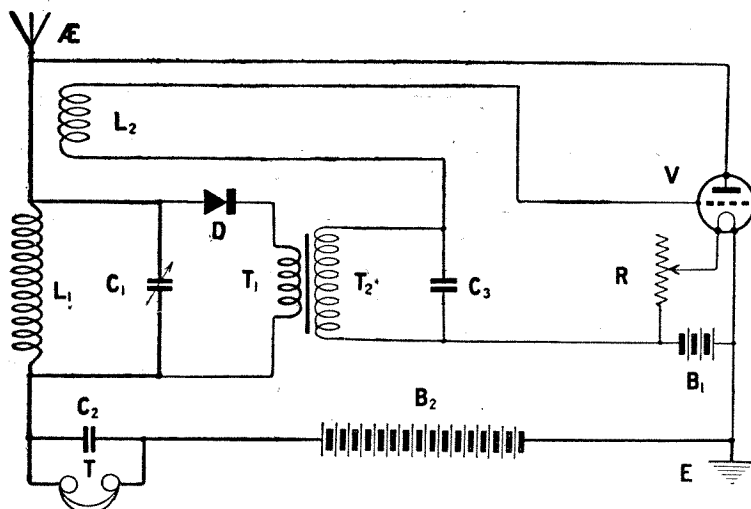

Fig. 1.—This new crystal-valve circuit may readily be connected up on the Omni receiver.
**A**N interesting valve-crystal circuit recently evolved by Mr. John Scott-Taggart is that given in Fig. 1. The circuit was first described in the March issue of the *Wireless Constructor* under the title of "A New Crystal-Valve Circuit," and although it is not claimed that the results obtainable equal those from a good single-valve reflex receiver, it is certainly an improvement on the ordinary crystal and note-magnifier circuit. It will be seen that the Fig. 1 circuit resembles quite closely the last mentioned, the chief differences being the provision of a reaction coil  $L_2$  and the inclusion of the aerial coil  $L_1$  in the anode circuit of the valve.